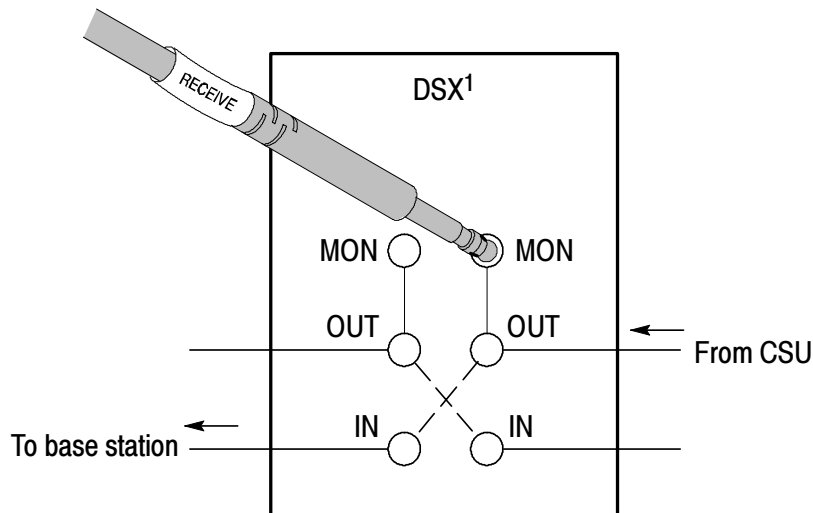

Figure 3-2: Typical connection for single-port monitoring
3. Connect the Bantam “Receive” plug to the monitor jack on the DSX¹ service panel as shown in Figure 3-2.